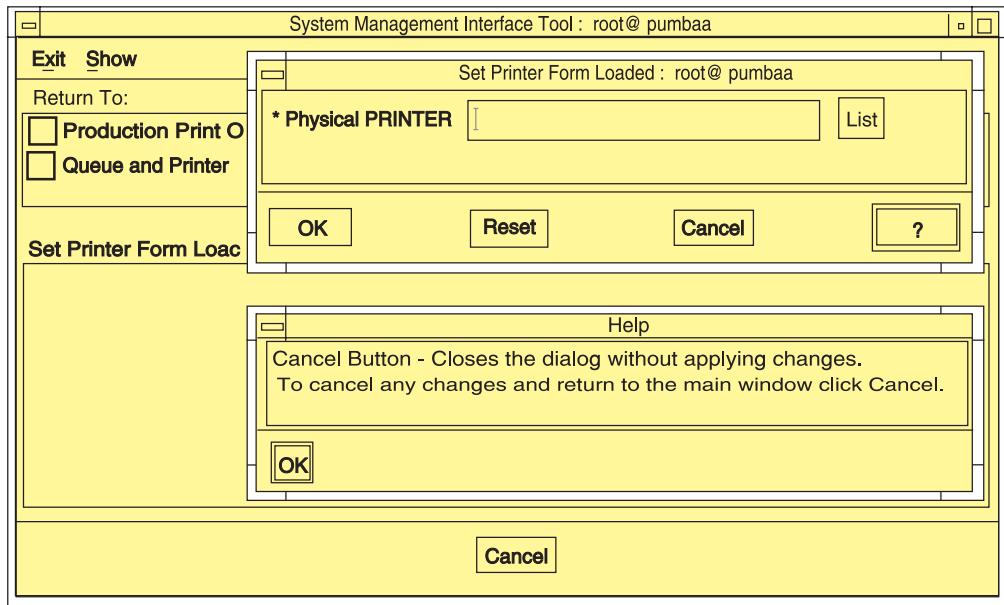

Figure 58. Help for SMIT Window Fields and Buttons
1. Select the button labeled with a question mark at the bottom right of the window. A **Help** window displays beneath the SMIT window. Figure 58 on page 252 shows the results of selecting the question mark button.